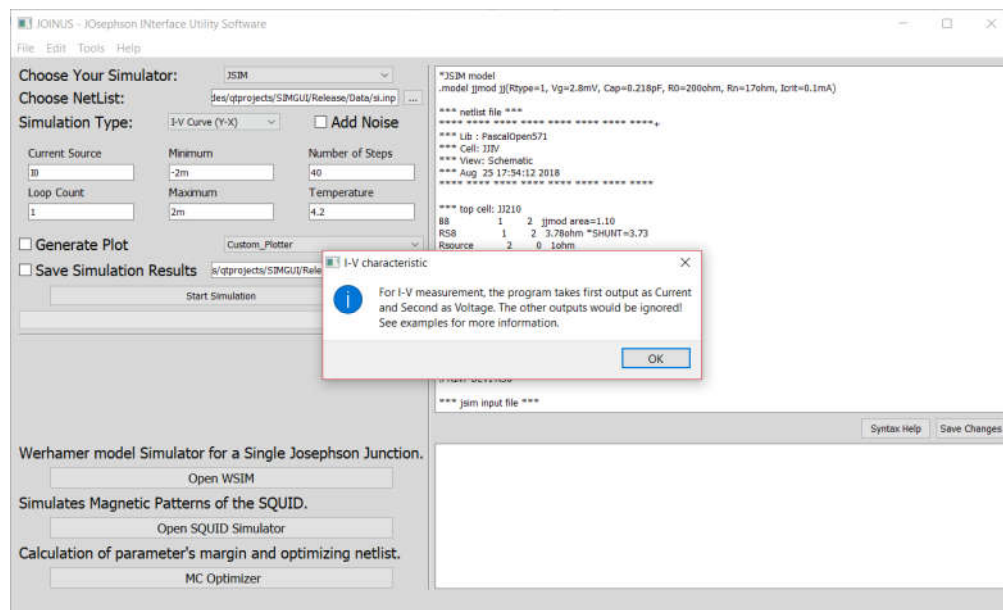

Figure 8 The I-V curve calculation front panel.
In the I-V curve mode, JOINUS would take the first output as Current (Y) and second output as Voltage (X) and plot them versus each other. In this mode you should determine Current Source name, boundary values for current, number of points per period and number of periods or loops as Figure 8. After that the program will run by start button and draw the I-V curve.